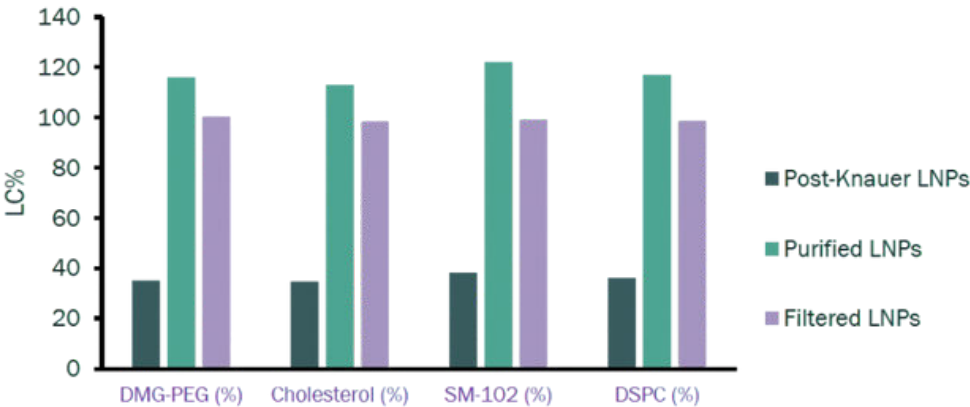

Figure 5. LC% for SM-102, DSPC, cholesterol, and DMG-PEG (2000) by HPLC-CAD.
Beyond mRNA analysis, we meticulously assess the lipid concentration, a crucial element in our LNPs crafted at Curapath. The here presented formulation included SM-102, DSPC, cholesterol, and DMG-PEG (2000) lipid. Employing advanced HPLC technology with a CAD detector (4), we unravel the lipid profile with precision. This cutting-edge analysis traces the journey of lipids through chromatography, where their concentration is revealed in the signal intensity, denoted as Lipid Concentration (LC%). Content for lipid components is scrutinized at pivotal stages of LNPs production, as illustrated in **Figure 5**.